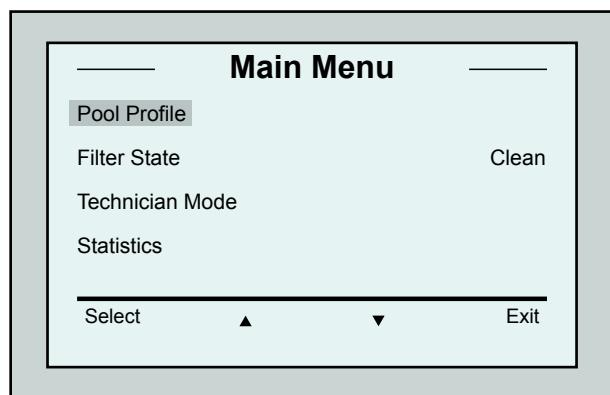

Figure 6: *Main Menu* screen
The Dolphin Wave robot is designed to handle 4 different swimming pool configurations and when these are set, the pool configurations are stored in the MMI's memory. The robot is preset in the factory with specific default pool settings, which can be reset. Please refer to the first *Main Menu* screen, Figure 6 and Customized Settings, page 7.
2. Press **Menu** to enter the *Main Menu* (Figure 6).